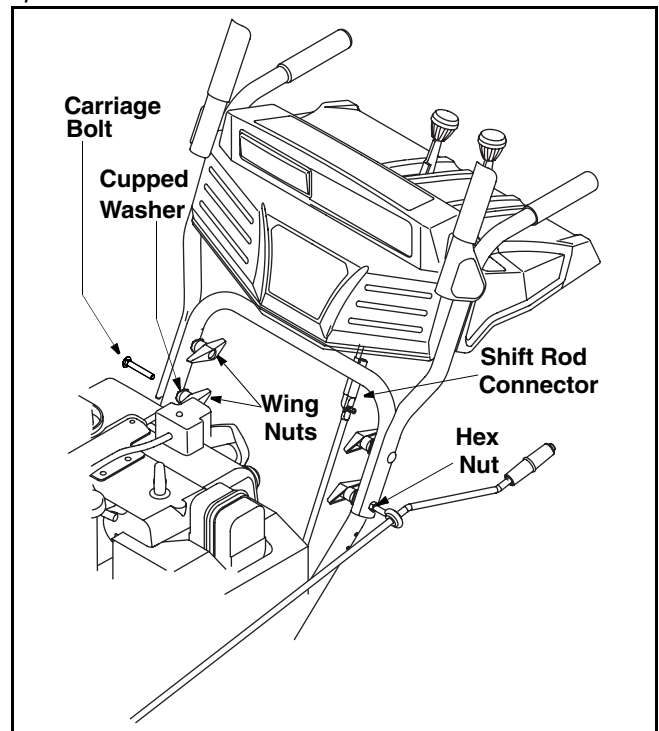

Figure 2
- Remove the **lower** plastic wing nut, cupped washer and carriage bolt from each side of the lower handle. See Figure 2.
- Secure the upper handle and lower handle with the two plastic wing nuts, cupped washers and carriage bolts previously removed. Attach these hardware on the lower hole in the handles. See Figure 2.
- Tighten the two wing nuts already in place on the upper holes and secure the handles firmly. Slide the shift rod connector down over the end of the lower shift rod. Tap the connector until it **locks** over the lower shift rod. See Figure 2.
- Adjust the eyebolt on the chute directional control so the rod does not come into contact with the engine by moving the hex nut against the handle (if necessary). Retighten the wing nut to secure the directional control in this position. See Figure 2.